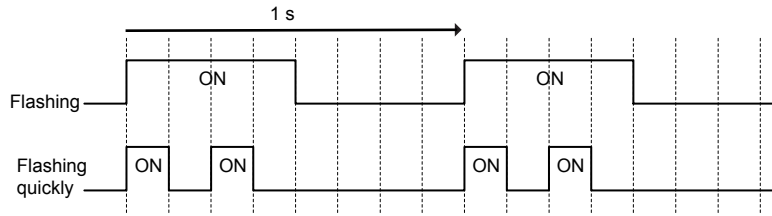

Figure 4.3 RUN LED Status and Meaning
- <1> Refer to Figure 4.3 for the difference between “flashing” and “flashing quickly”.